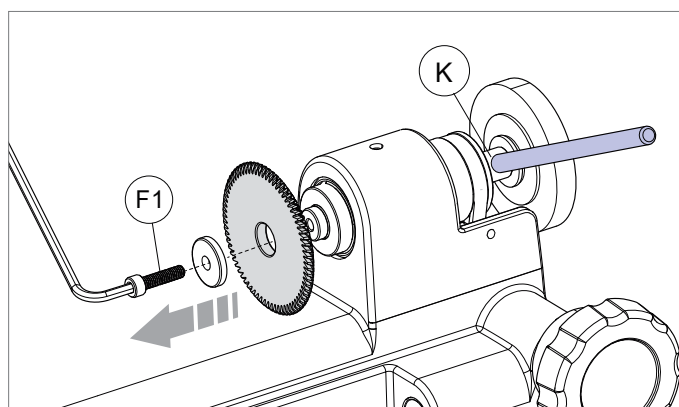

Fig. 35
- 2) Slot the locking rod (provided) into the hole (K) of the cutting tool shaft (Fig. 35).